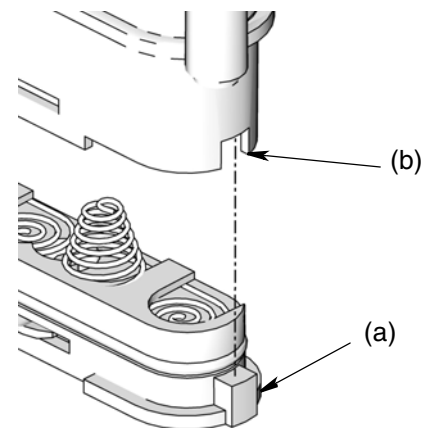

FIG. 38
- Replace cover. The cover is designed to only fit on battery compartment one way. The notch (a) on cover fits into slot (b) on compartment. (FIG. 38).